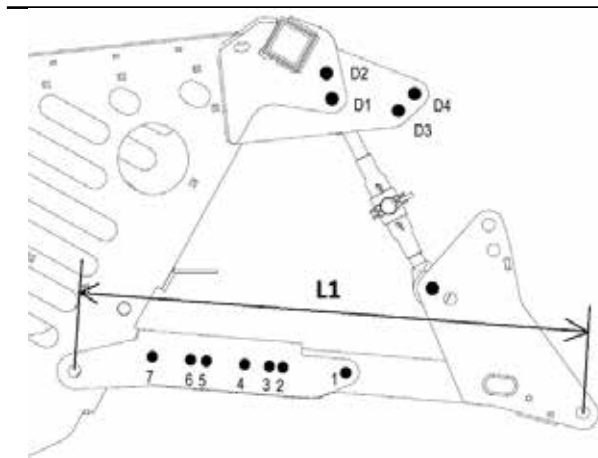

Fig. 9 Installation of “fast” configuration
1. Assemble the telescopic arms G in the correct position according to the machine configuration (figure 9)
4. Fix the tie rod T2 in the correct holes according to the machine configuration (figure 9)